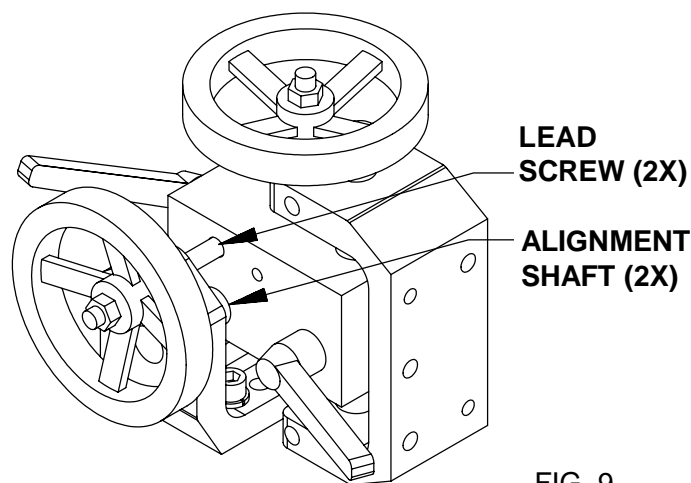

FIG. 9
6. Wipe and relub with never-seez, the vertical and horizontal alignment shafts and lead screws, every six months. See FIG. 9.